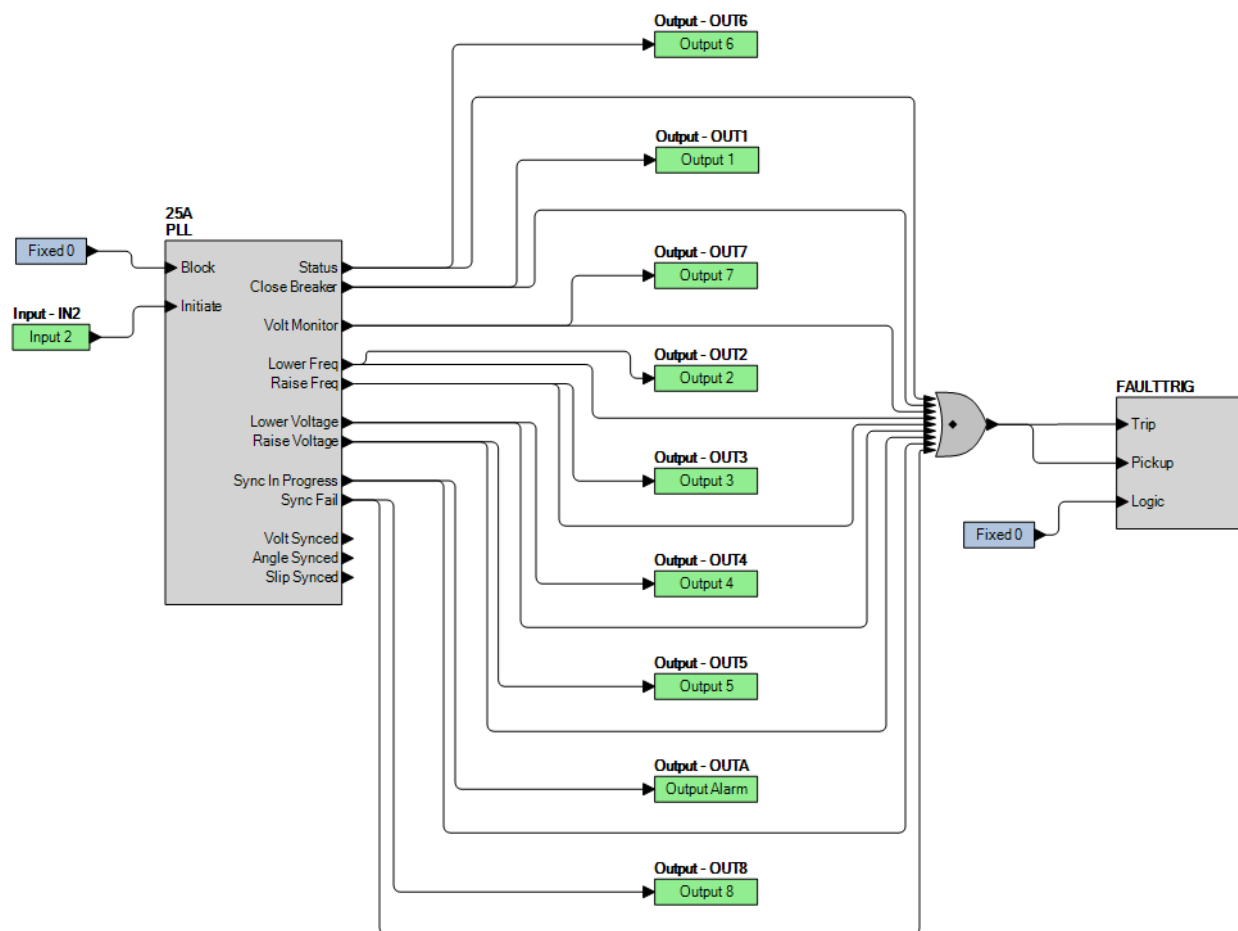

Figure 83-2. BESTlogicPlus Settings 2 (25A)
- Step 1: Use BESTCOMSPPlus to verify the settings in Table 83-2 to the BE1-11g and set the logic in Figure 83-2.